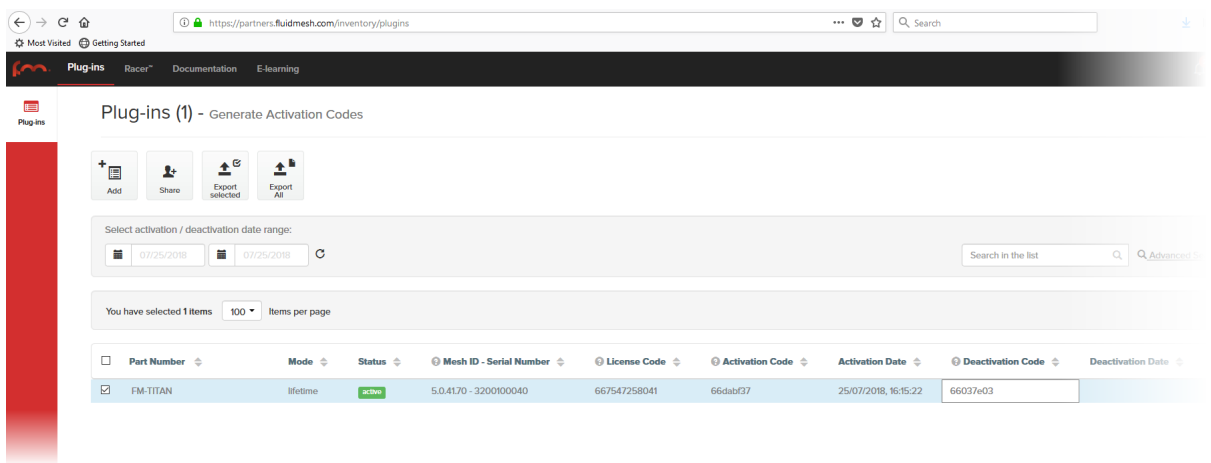

Figure 70. Partner Portal Plug-ins page (deactivation code entry)
8. Enter the Deactivation code for the plug-in in the Deactivation Code field (Figure 70 (page 160)).